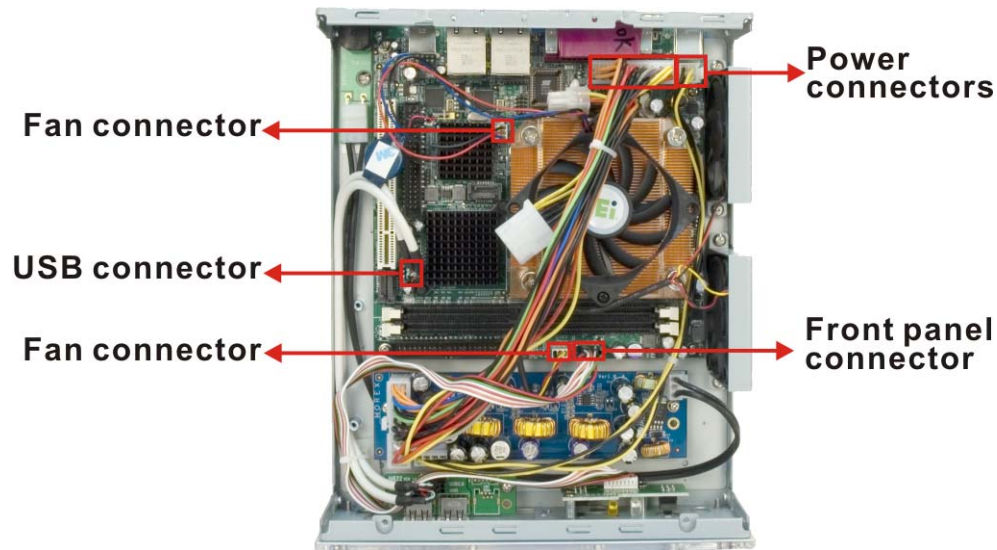

Figure 7-2: Motherboard Connectors
Step 5: Remove the following connector cables (See **Figure 7-2**):
Step 5: Reconnect the following cable connectors (**Figure 7-2**):
Step 3: Remove the fan connector cable from the motherboard (**Figure 7-2**).